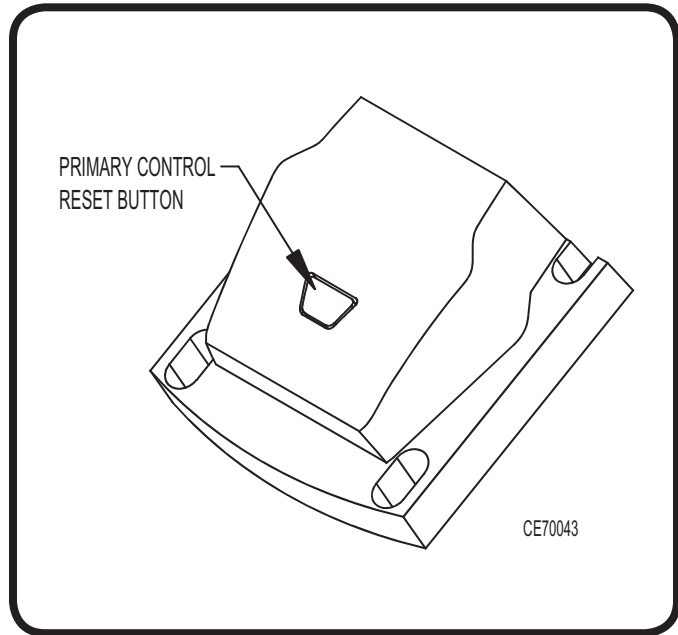

Figure 26: Oil Primary Control Reset Button
- (1) Refer to Figure 26 to locate the oil primary control reset button.
- (2) Do not attempt to reset the burner if there is excess oil in the combustion chamber, vapor has accumulated in the unit, or when the furnace is hot.
- (3) When the combustion chamber has cooled, and there is no vapor or excess oil in the combustion chamber, push the reset button for 3 seconds and release.
- (4) If the burner does not restart contact the Clean Energy Heating Systems service department.